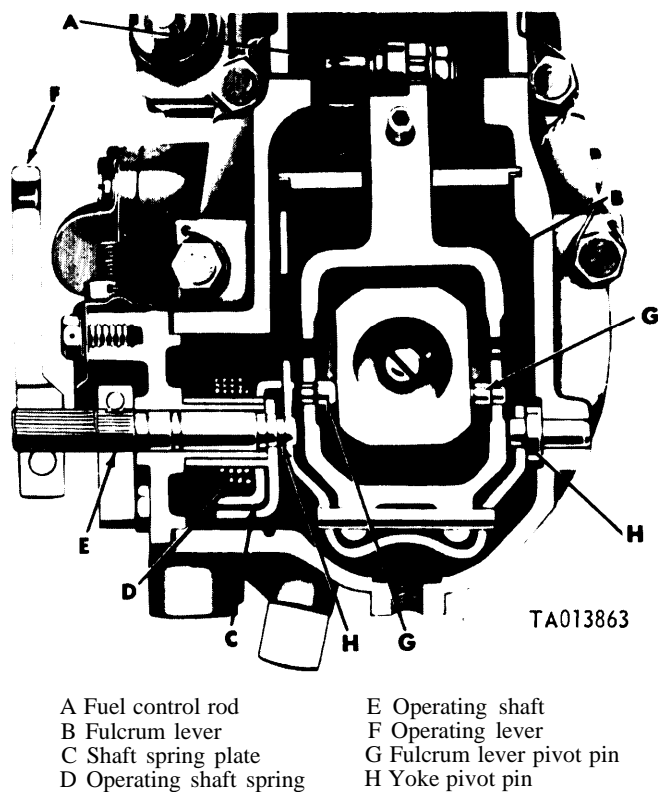

Figure 1-19. Governor assembly (code B, C, D, E, F and G), rear sectional view.
b. The governor housing (TT) is attached to the of the injection pump housing (AC). The main components of the governor are the governor weight and spider assembly (UU, WW), sliding sleeve (VV), governor inner and outer springs (RR, SS), fulcrum lever (NN), and operating linkage.
c. The governor weight and spider assembly is pressed on an extension of the camshaft (ZZ) and contains two movable governor weights (UU) which are pinned on opposite sides of friction drive spider (WW). The weights swing freely on their pins.
e. The smoke limit cam (MM) is located at the top of the fulcrum lever (NN) and rides on the stop plate (PP) of the density compensator. The operating lever (F, fig. 1-19 and 1-20) is connected to the operating shaft (E, fig. 1-19 and 1-20). The operating shaft is connected to the fulcrum lever by suitable linkage.